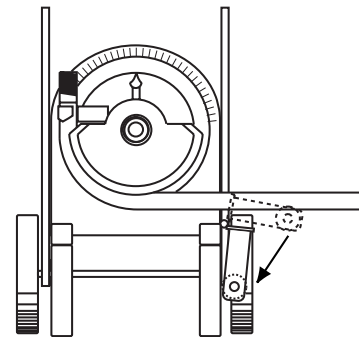

Figure 15. Front View
5. Using the remote hand unit (pendant) place the "Bend/Unload" switch in the "bend" position. Press the "Jog" button and advance the Bender. Be sure to check the alignment of the bending mark as the rotating shoe locks the pipe/conduit into position. Advance the Bender shoe to the desired degree of bend. When the pointer on the shoe reaches the desired degree of bend, release the "Jog" button and the Bender will stop. See Figure 15.
6. To release the pipe/conduit, place the "Bend/Unload" switch in the "Unload" position. Press the "Jog" button and reverse the shoe far enough to stop and drop the support unit. See Figure 15. The pipe/conduit can now be removed.